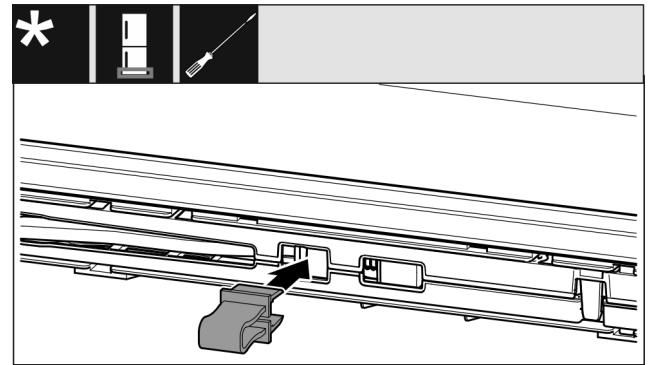

Fig. 12
► Engage the locking device in the opening Fig. 12 ().